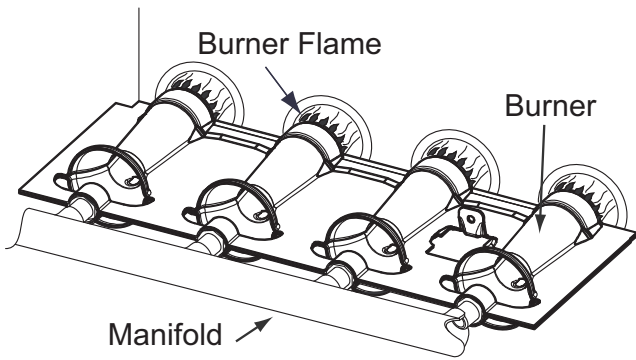

Fig. 69 - Burner Flame
8. Reverse items 6 through 1 for reassembly.
11. Check furnace operation through 2 complete heat operating cycles. Look at burners. Burner flames should be clear blue, almost transparent. See Fig. 69.